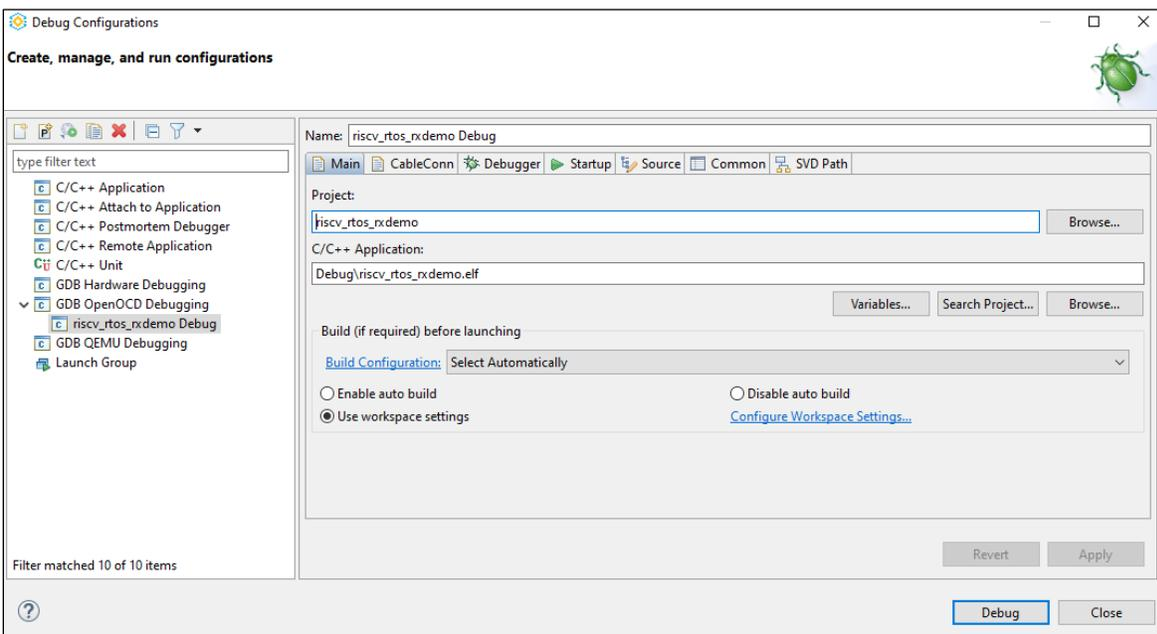

Figure 5.3. Debug Configuration
3. Double-click **GDB OpenOCD Debugging** to create a new launch configuration (**Figure 5.3**).